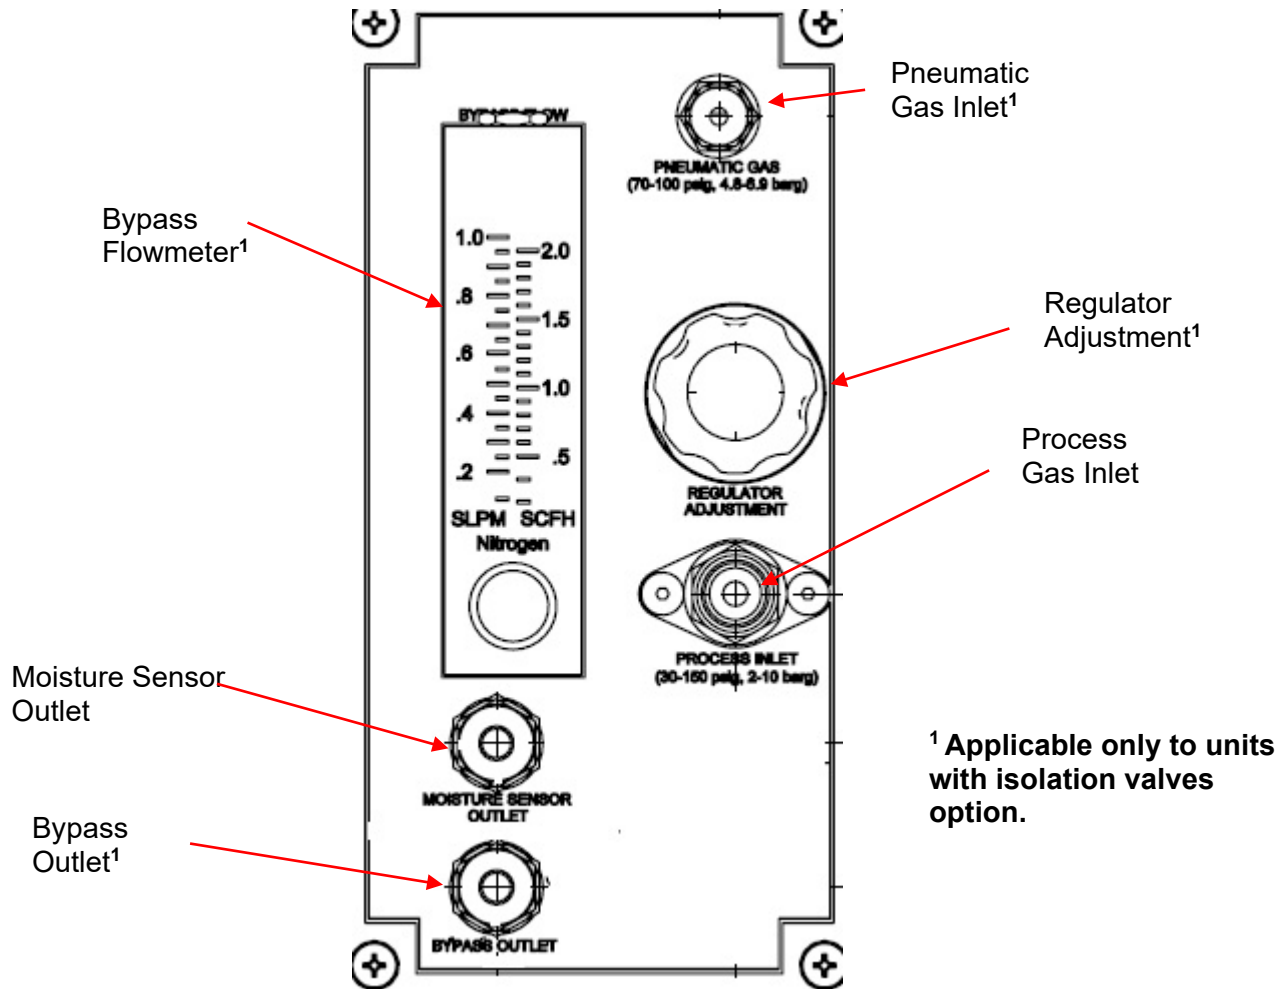

Figure 10: DF-745SGMAX Analyzer Gas Panel
connection point. Refer to **Figure 10** for analyzer gas connection locations.
2. Adjust the analyzer's regulator (see **Figure 10**) to achieve a flow rate of 1 SLPM using the internal flow meter as a reference.